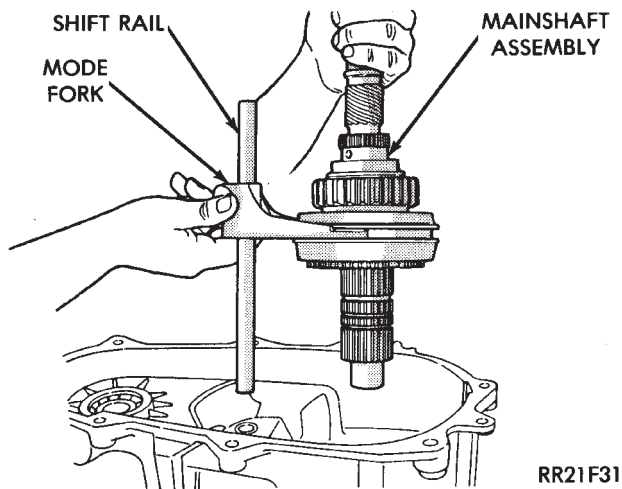

Fig. 61 Installing Mainshaft And Mode Fork Assembly
- (3) Engage mode fork in sleeve (Fig. 61).
- (4) Install mode fork-mainshaft assembly in case (Fig. 61). Be sure the mode fork rail is seated in case bore.
- (5) Lift mainshaft upward about 2.54 cm (1-inch).
- (6) Position front output shaft in drive chain.